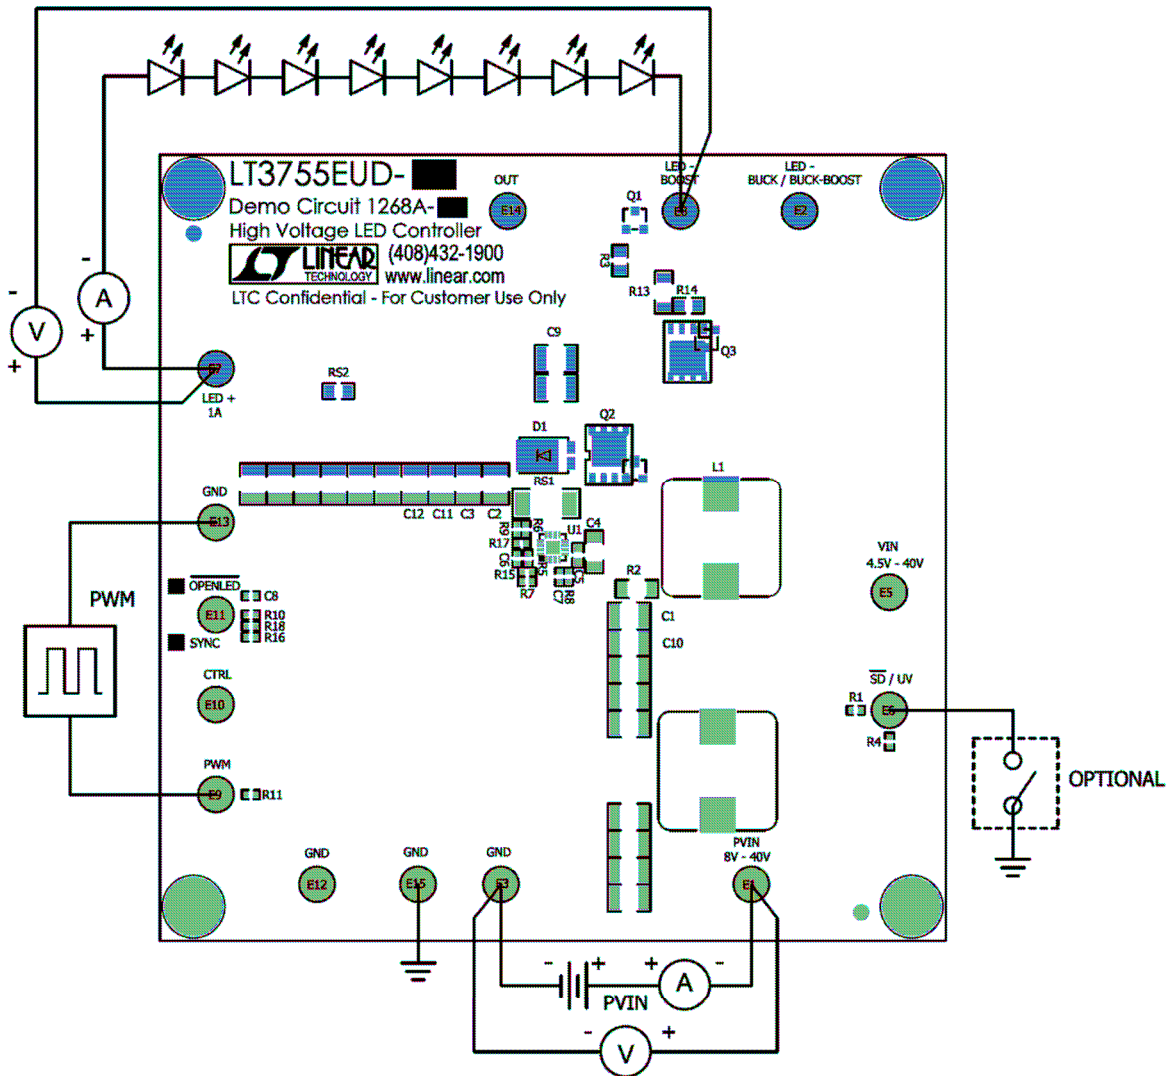

Figure 1. Test procedure setup drawing for DC1268A-A and DC1268A-B
1. Connect a string of LEDs with forward voltage less than 55V, but greater than the PVIN voltage, to the LED+ and LED- (Boost) terminals on the PCB as shown in Figure 1.